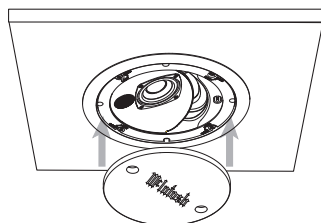

Figure 5
1. Insert the supplied paint shield into the frame of the Loudspeaker. Refer to figure 5.